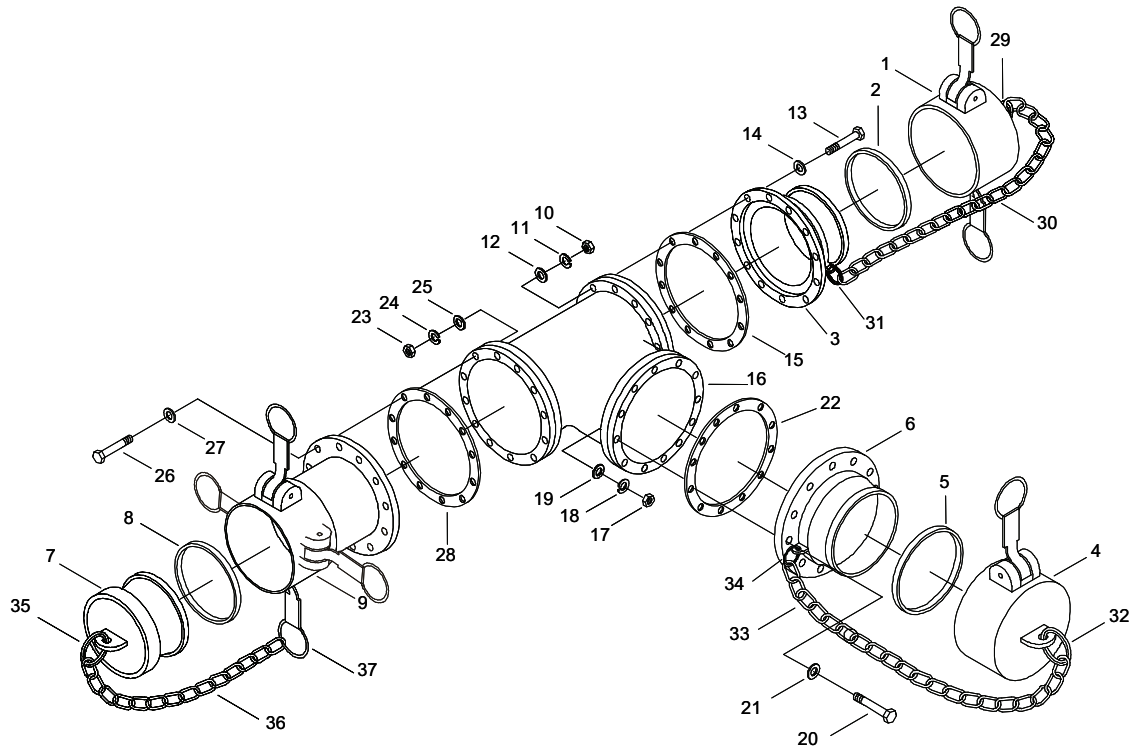

Figure 1. 6 In. Female X 6 In. Male X 4 In. Male Tee Assembly.
1. Remove quick disconnect dust cap (Figure 1, Item 1) and gasket (Figure 1, Item 2) from coupling (Figure 1, Item 3).
2. Remove quick disconnect dust cap (Figure 1, Item 4) and gasket (Figure 1, Item 5) from coupling (Figure 1, Item 6).
3. Remove quick disconnect dust plug (Figure 1, Item 7) and gasket (Figure 1, Item 8) from coupling (Figure 1, Item 9).
4. Discard gaskets (Figure 1, Item 2, 5, 8).
5. Remove twelve nuts (Figure 1, Item 10), twelve lock washers (Figure 1, Item 11), twelve flat washers (Figure 1, Item 12), twelve bolts (Figure 1, Item 13), twelve flat washers (Figure 1, Item 14), coupling (Figure 1, Item 3) and gasket (Figure 1, Item 15) from tee (Figure 1, Item 16).
6. Discard gasket (Figure 1, Item 15) and lock washers (Figure 1, Item 11).
7. Remove eight nuts (Figure 1, Item 17), eight lock washers (Figure 1, Item 18), eight flat washers (Figure 1, Item 19), eight bolts (Figure 1, Item 20), eight flat washers (Figure 1, Item 21), coupling (Figure 1, Item 6) and gasket (Figure 1, Item 22) from tee (Figure 1, Item 16).
8. Discard gasket (Figure 1, Item 22) and lock washers (Figure 1, Item 18).
9. Remove twelve nuts (Figure 1, Item 23), twelve lock washers (Figure 1, Item 24), twelve flat washers (Figure 1, Item 25), twelve bolts (Figure 1, Item 26), twelve flat washers (Figure 1, Item 27), coupling (Figure 1, Item 9) and gasket (Figure 1, Item 28) from tee (Figure 1, Item 16).
10. Discard gasket (Figure 1, Item 28) and lock washers (Figure 1, Item 24).
11. Remove split ring (Figure 1, Item 29) from quick disconnect dust cap (Figure 1, Item 1).
12. Remove split ring (Figure 1, Item 29) from chain (Figure 1, Item 30).
13. Remove split ring (Figure 1, Item 31) from chain (Figure 1, Item 30).
14. Remove split ring (Figure 1, Item 31) from coupling (Figure 1, Item 3).
15. Remove split ring (Figure 1, Item 32) from quick disconnect dust cap (Figure 1, Item 4).
16. Remove split ring (Figure 1, Item 32) from chain (Figure 1, Item 33).
17. Remove split ring (Figure 1, Item 34) from coupling (Figure 1, Item 6).
18. Remove split ring (Figure 1, Item 34) from chain (Figure 1, Item 33).
19. Remove split ring (Figure 1, Item 35) from quick disconnect dust plug (Figure 1, Item 7).
20. Remove split ring (Figure 1, Item 35) from chain (Figure 1, Item 36).
21. Remove split ring (Figure 1, Item 37) from coupling (Figure 1, Item 9).